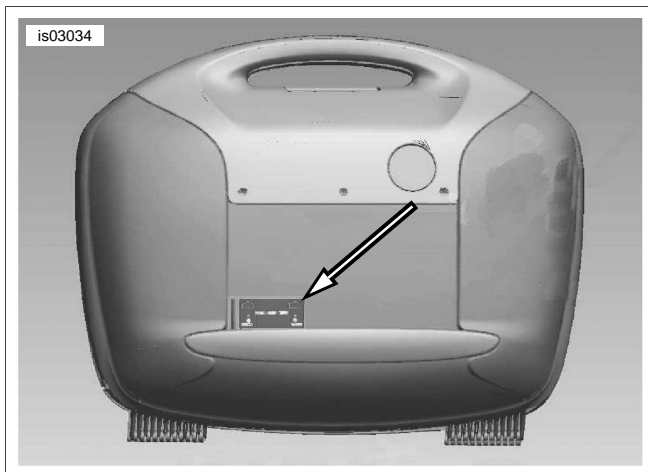
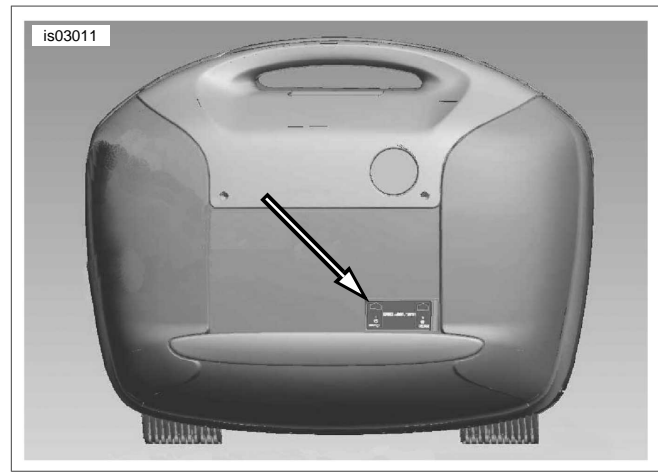

Figure 2. Left Side Case Reflector Mounting Location
Figure 3. Right Side Case Reflector Mounting Location
1. See Figure 2 and Figure 3. Using isopropyl alcohol, clean the surface of the sidecase where the reflector will be mounted.
2. Remove the adhesive backing from the left side reflector and install per Figure 2 and Figure 3 with orientation arrow on the reflector pointing up. Hold reflector firmly against saddlebag for 10-15 seconds. Repeat for right side reflector.